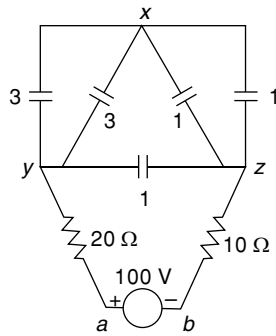
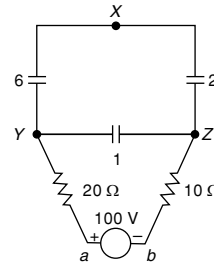
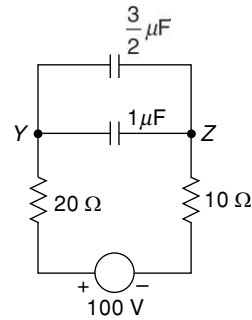

Fig. 1.42 Network of Ex. 1.34
Fig. 1.42a Reduced network of Fig. 1.42
Fig. 1.42b Final reduced network of Fig. 1.42a
1.34 In Fig. 1.42, find the p.d. between (x-y) and (x-z) in steady state. Figures shown against capacitances are in μF .
Figure 1.42a shows the reduced network where both 3 μF capacitors at the left hand side are replaced by their equivalent capacitance as well as two 1 μF capacitors at the right hand side of Fig. 1.42 are also replaced by their equivalent capacitance.
Further reduction of the network (shown in Fig. 1.42a) is possible (Fig. 1.42b).